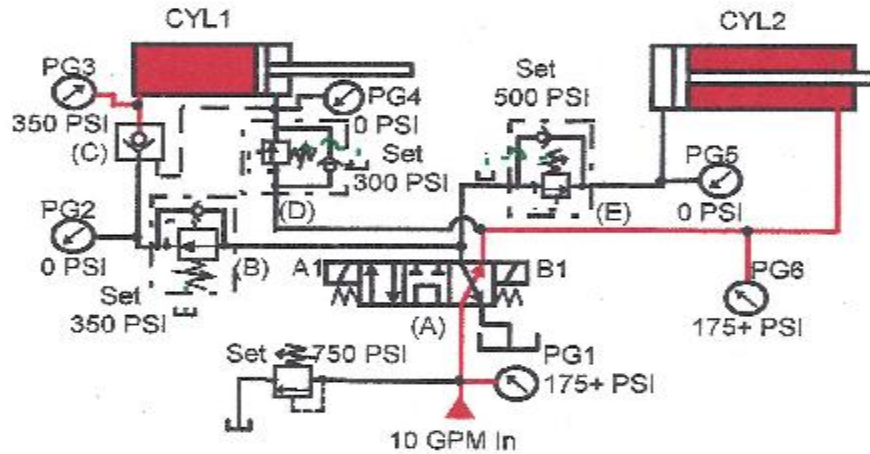

Figure 20-10. Two-cylinder sequence circuit.
When CYL2 fully retracts, system pressure increases rapidly, as seen in Figure 20-10. Pressure in the rod end of CYL2 finally increases to 300 psi. CYL1 still has approximately 350 psi in its cap end due to pilot-operated check valve (C). (Pressure at CYL1 may drop due to leaks at seals or piping with the circuit described here.) With a short cycle time, pressure drop is minimal. If decreasing pressure is a problem, tee a small accumulator in the line between pilot-operated check valve (C) and the cylinder. See a leakage make-up circuit using an accumulator in Chapter 1, Figures 1-24 to 1-27.